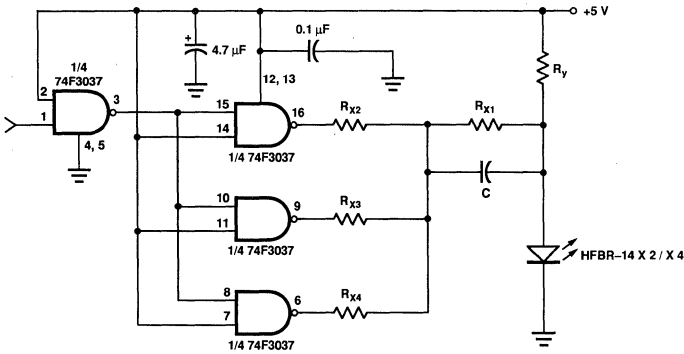

Figure 11. Recommended Drive Circuit.
- Pre-bias is recommended if signal rate > 10 MBd, see recommended drive circuit in Figure 11.
The LED drive circuit shown in Figure 11 uses current-peaking